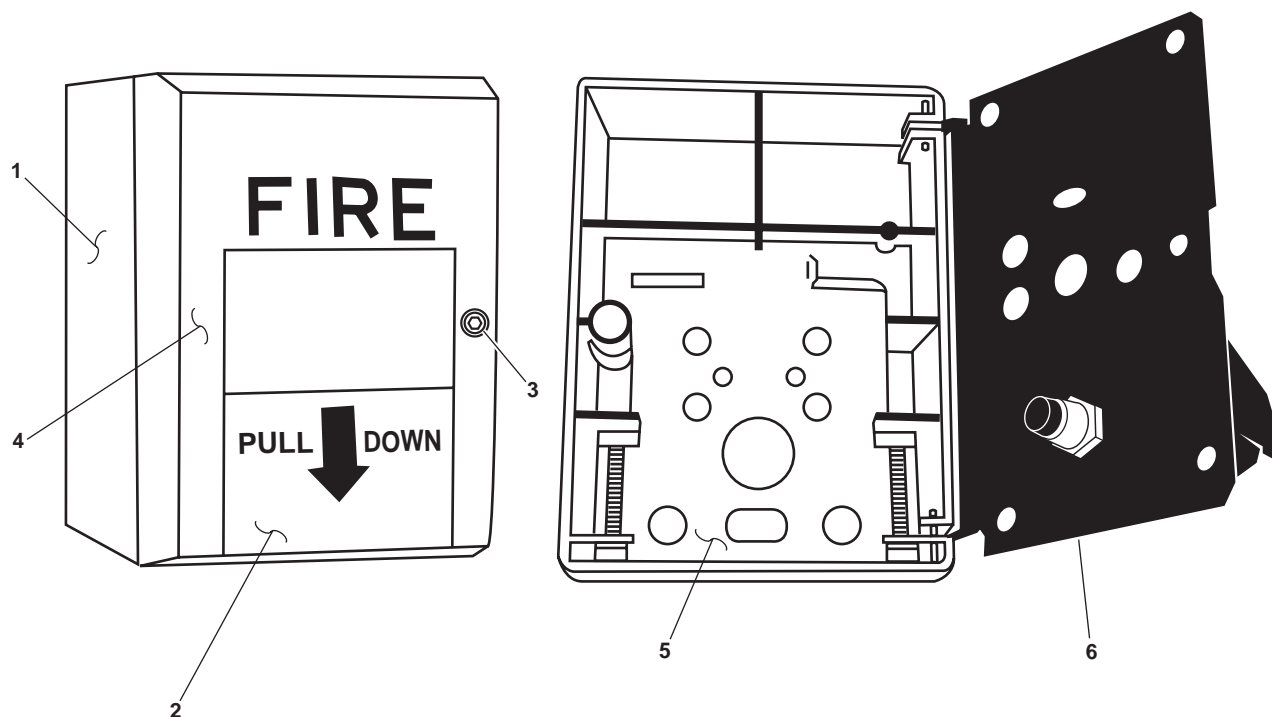

Figure 6. Fire Detection Panel Fire Alarm Pull Station
1. Activate the fire detection fire alarm pull station (figure 6, item 1) by grasping the pull down handle (figure 6, item 2) and pulling straight down. Observe the following:
3. Reset the fire detection panel fire alarm pull station (figure 6, item 1) by loosening the locking screw (figure 6, item 3), opening the hinged cover (figure 6, item 4), locking the body (figure 6, item 5) into the back plate (figure 6, item 6), and securing the hinged cover with the locking screw.